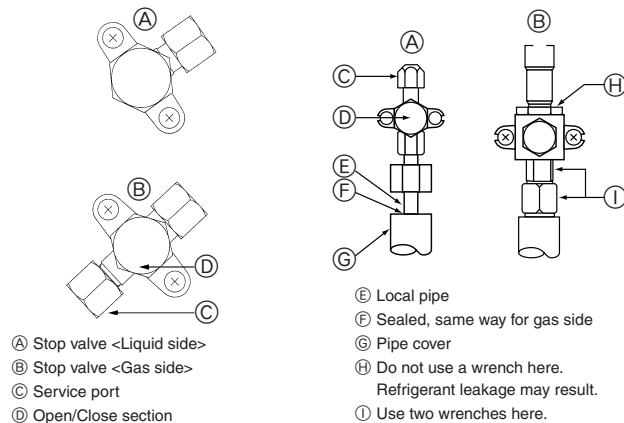

Fig. 4-4
- ② Vacuum-purge air from the indoor unit and the connection piping.
- ③ After connecting the refrigerant pipes, check the connected pipes and the indoor unit for gas leaks. (Refer to 4.4 Refrigerant pipe airtight testing method)
- ④ A high-performance vacuum pump is used at the stop valve service port to maintain a vacuum for an adequate time (at least one hour after reaching -101 kPa (5 Torr)) in order to vacuum dry the inside of the pipes. Always check the degree of vacuum at the gauge manifold. If there is any moisture left in the pipe, the degree of vacuum is sometimes not reached with short-time vacuum application.
- ⑤ Use sealant to seal the ends of the thermal insulation around the pipe connection sections to prevent water from entering the thermal insulation.
4.4. Refrigerant pipe airtight testing method (Fig. 4-4)